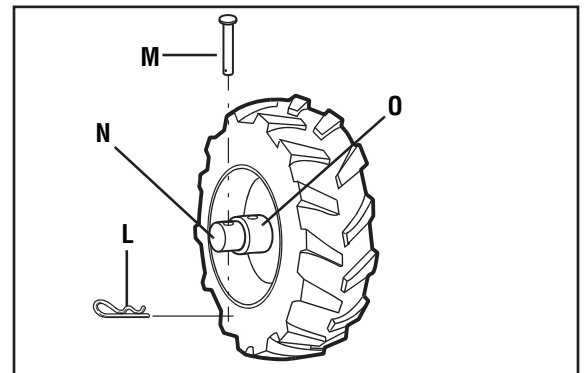

Fig. 2.3: Wheel in FREEWHEEL position (wheel drive pin through wheel shaft only).
- Remove the hairpin cotter (L, Fig. 2-3) and wheel drive pin (M) from the wheel hub (O) and wheel shaft (N).
- Slide the wheel fully inward on the wheel shaft (N, Fig. 2-3). Reinstall the clevis pin (M) through the wheel shaft (L) only (not through the wheel hub). Secure with cotter pin (L), pushing the cotter in as far as it will go. The wheel should now spin freely (freewheel) on the wheel shaft. Repeat with the other wheel.